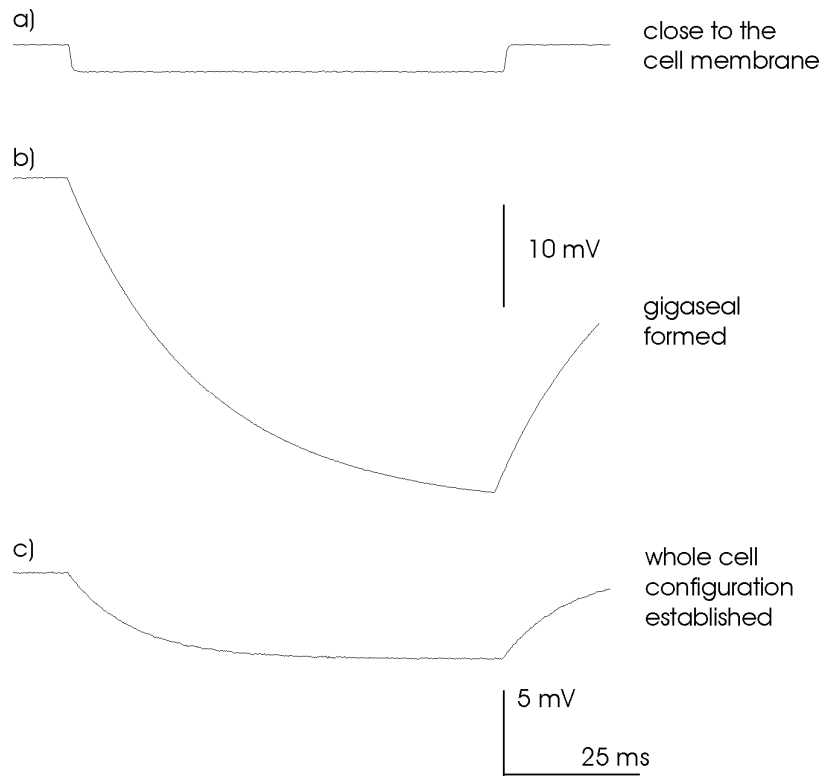

Figure 15: Approaching the cell, forming a gigaseal and establishing the whole cell configuration
- Approach the cell until the voltage signal changes (**a**, Figure 15). Often you can observe a slight dent in the cell membrane.
- If the seal does not form apply gentle suction to the pipette until a gigaseal is established (**b**, Figure 15).
- Apply stronger suction to the pipette or use the BUZZ unit to brake the cell membrane under the pipette and establish the whole cell configuration. The whole cell configuration is established if you see the voltage signal getting smaller again (**c**, Figure 15) and you read the expected membrane potential.